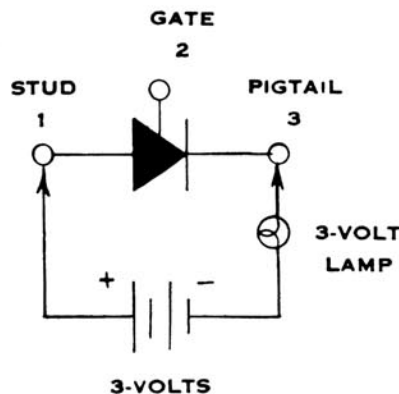

Fig. 8
Connect the plus lead to the stud (1), connect negative lead to the pigtail (3) as shown in Figure 8.